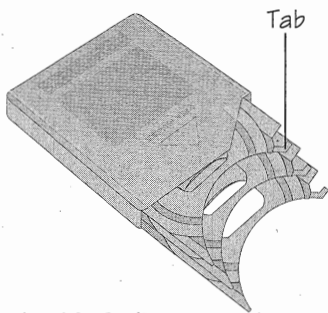

Fig. 13: 3-disc magazine
- Select a tray and place a fingertip on its tab. Gently pull it out until it stops. (See Figure 13.)